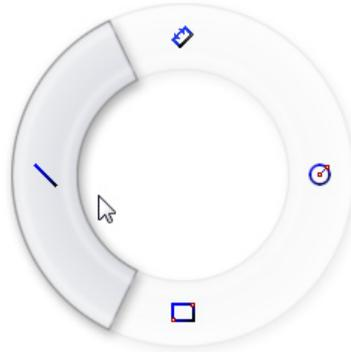

Figure 3-68 Line button in mouse gesture
9. Choose the **Line** button using the mouse gesture, refer to Figure 3-68 and then move the cursor to the left endpoint of the upper horizontal line. Click to specify the start point of the line when the orange circle is displayed.